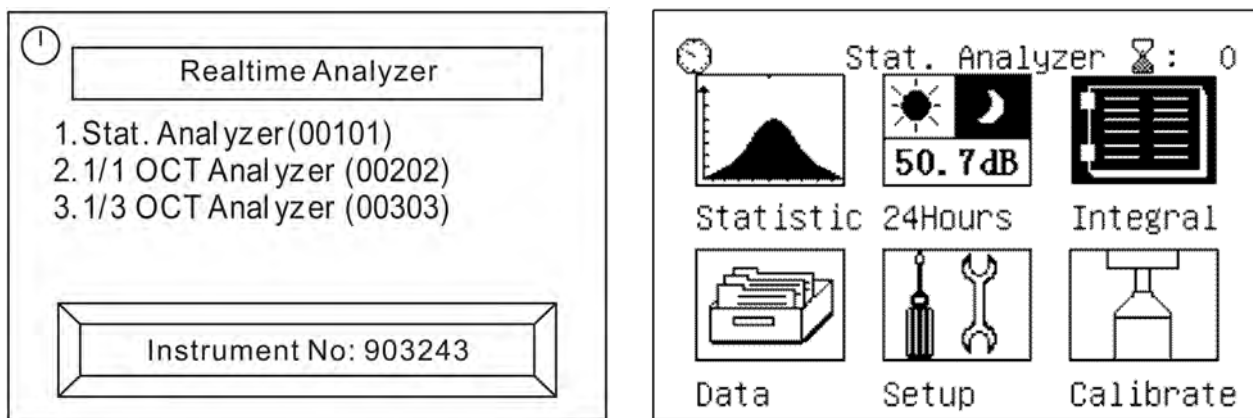

Fig. 10: Initial screens of statistic analysis
1. Turn on the instrument by pressing the “” key. The screen for the selection of the analysis type is shown on the display for approximately 5s (see Fig. 10)